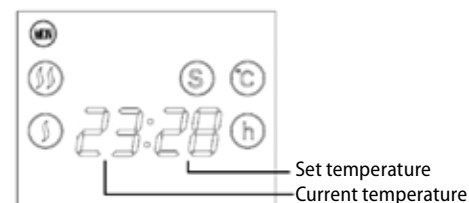

Fig. 4
Press (UP) or (DOWN) to select the desired temperature in the range of 5 °C - 40 °C. The display will show 2 temperatures, the number on the left displays the current temperature. The number on the right displays the selected temperature, see Fig. 4.